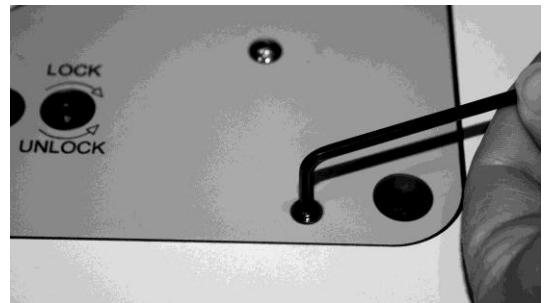

Figure 4
With the Rout-R-Lift™ II in the table top opening, install (10) set screws into the holes around the lift perimeter. Adjust (Figure 4) the four corners first to align the lift surface to the table surface so that both are flush. Adjust the remaining set screws on the sides to provide added support